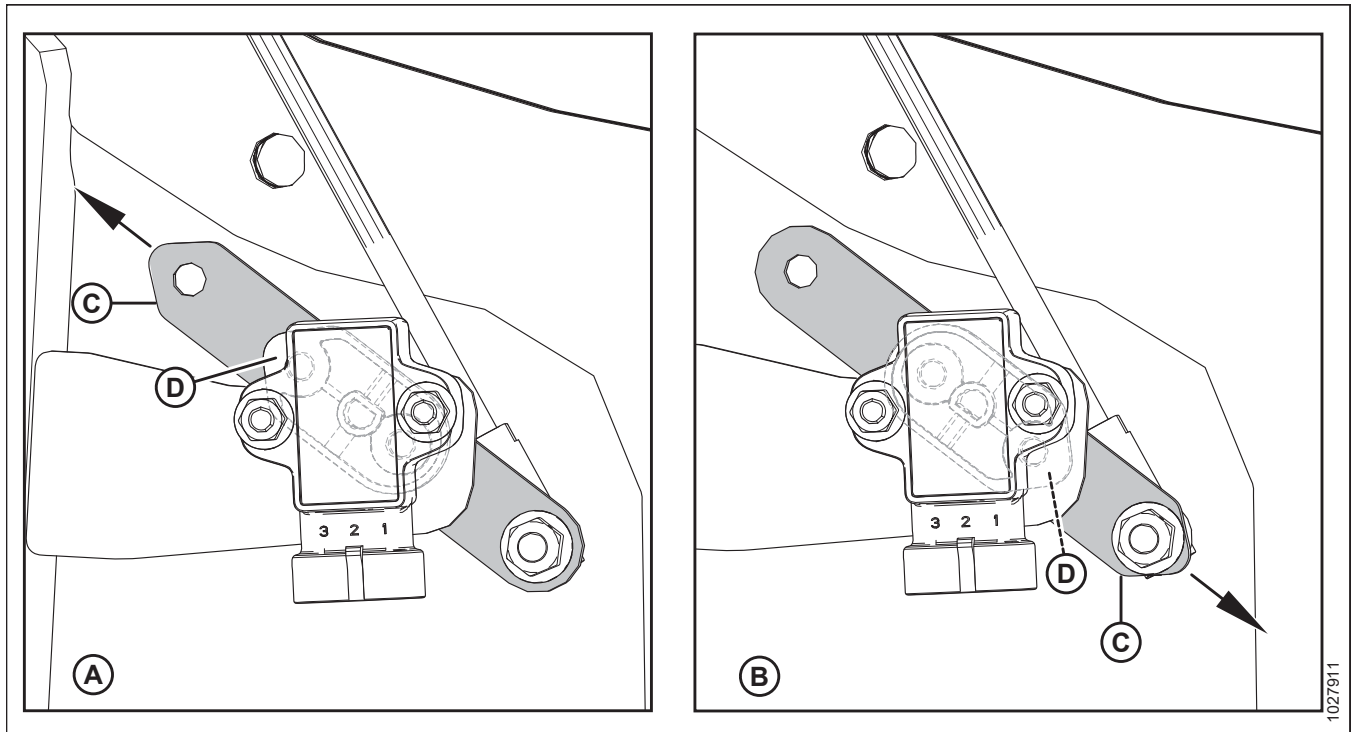

Figure 3.46: Sensor Arm/Pointer Configurations
2. Check that sensor arm (C) and pointer (D) are configured properly for your combine. Refer to Figure 3.46, page 33.